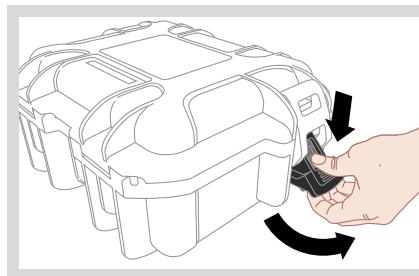
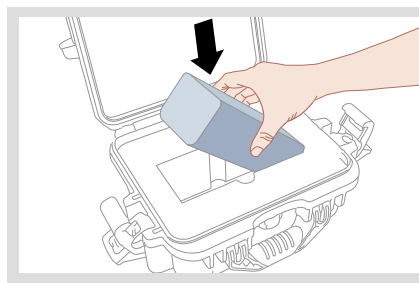

FIGURE 4-1
FIGURE 4-2
2. Open the Transport and Storage Case by pressing down on the two thumb levers and pulling up on the release latches (refer to figure 4-1).
3. Carefully remove one (1) CARDIOSAVE Li-Ion Battery from the IABP.
4. Place the Battery inside the Transport and Storage Case (refer to Figure 4-2).